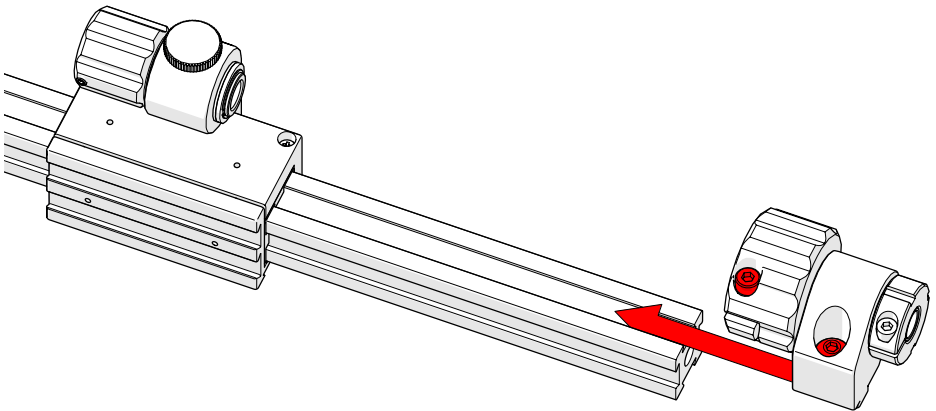

Fig. 247 - Place main knob on frame bar
3. Loosen the main knob's hexagonal screw and lock screw (Fig. 247 - note red highlight).
4. Align dovetail nut of the main knob with the frame bar and slide into position (Fig. 247).